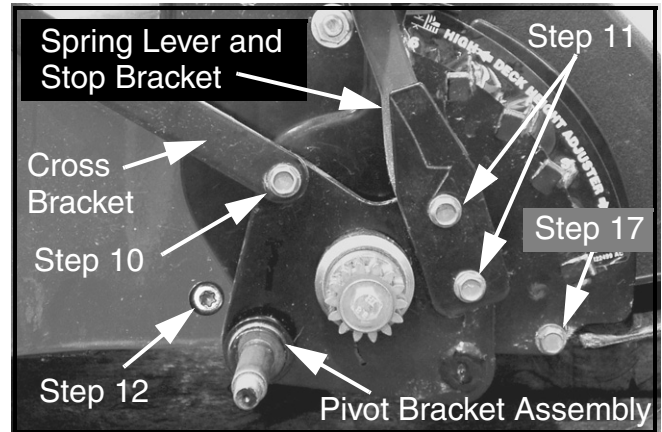

**FIGURE 3**
7. Using a spring puller P/N 732-0571, or other suitable tool, carefully unhook the height adjust extension spring from the cross bracket. See Figure 3.